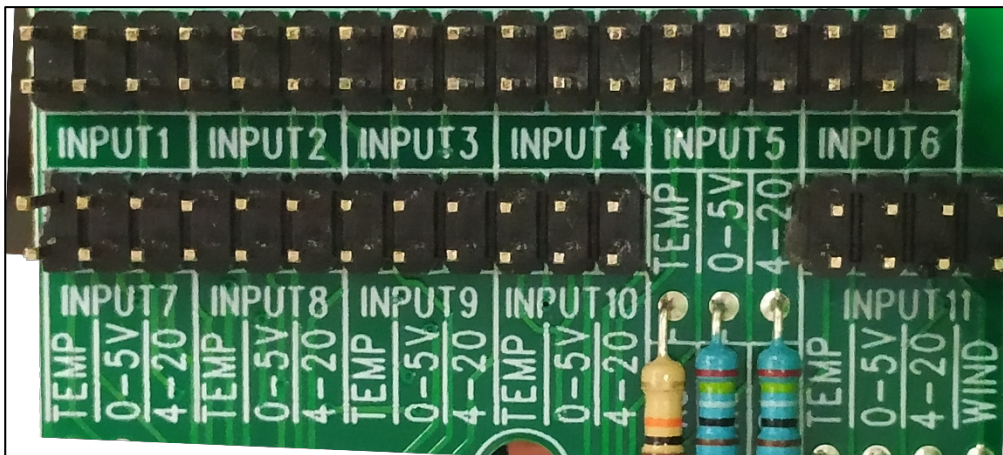

Figure 4: Jumpers - Expanded
- Refer to Figure 4 to see an expanded picture of the jumpers.